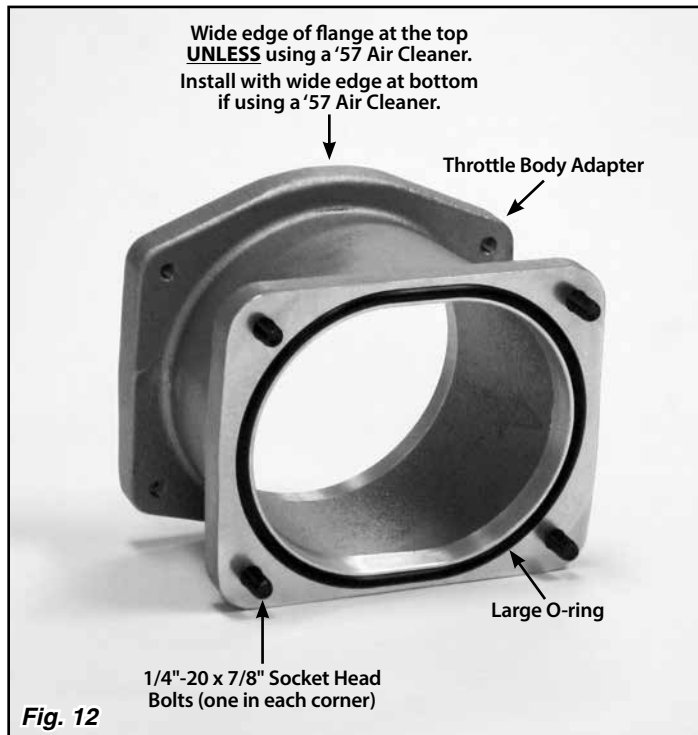

Fig. 12
**Step 11:** Install one of the large O-rings into the groove on the oval side of the throttle body adapter. Place a 1/4"-20 x 7/8" socket head bolt into each of the four flange holes on the oval end of the throttle body adapter. **Fig. 12**